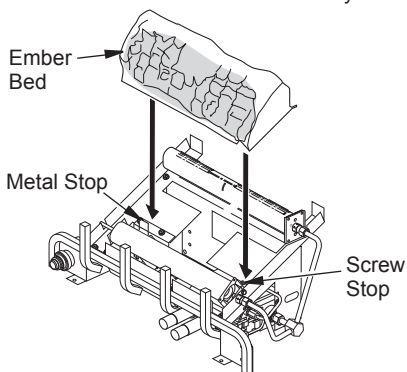

Figure 23 - Installing Ember Bed
1. Place ember bed in center of base assembly as shown in Figure 23. The ember bed must rest against the metal stop on the left and screw stop on the right. It is very important that ember bed be seated correctly.